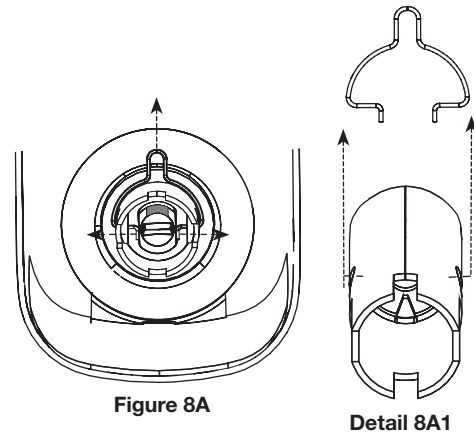

Figure 8A
- A. Once correct handing is determined, remove the clip from the shank (Fig. 8A) that has held the hub in its correct position.